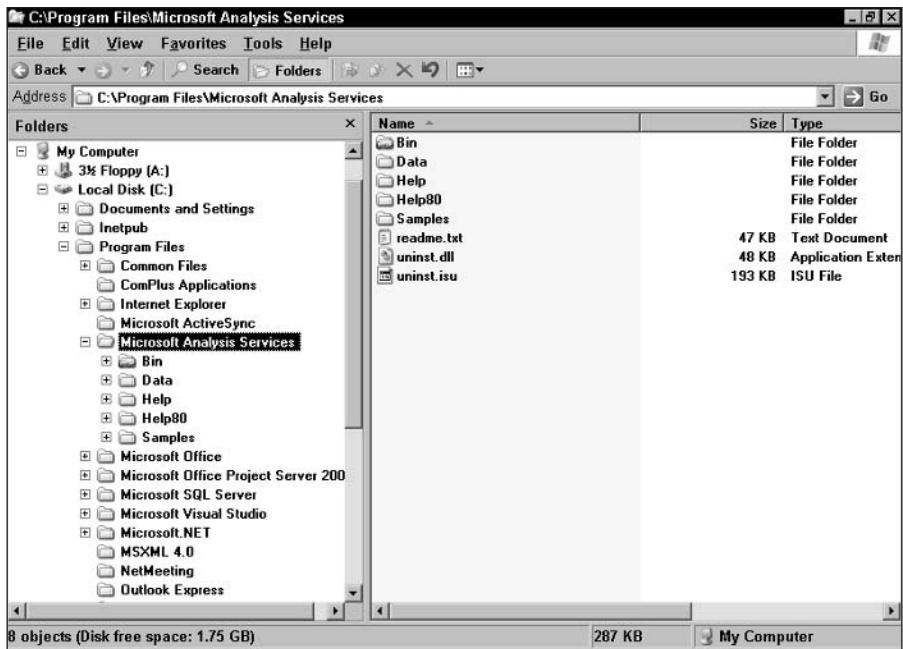

Figure 19-54: Use Windows Explorer to find the Bin folder.
2. Browse the folders until you are viewing the contents of the \Program Files\Microsoft Analysis Services folder (see Figure 19-54).